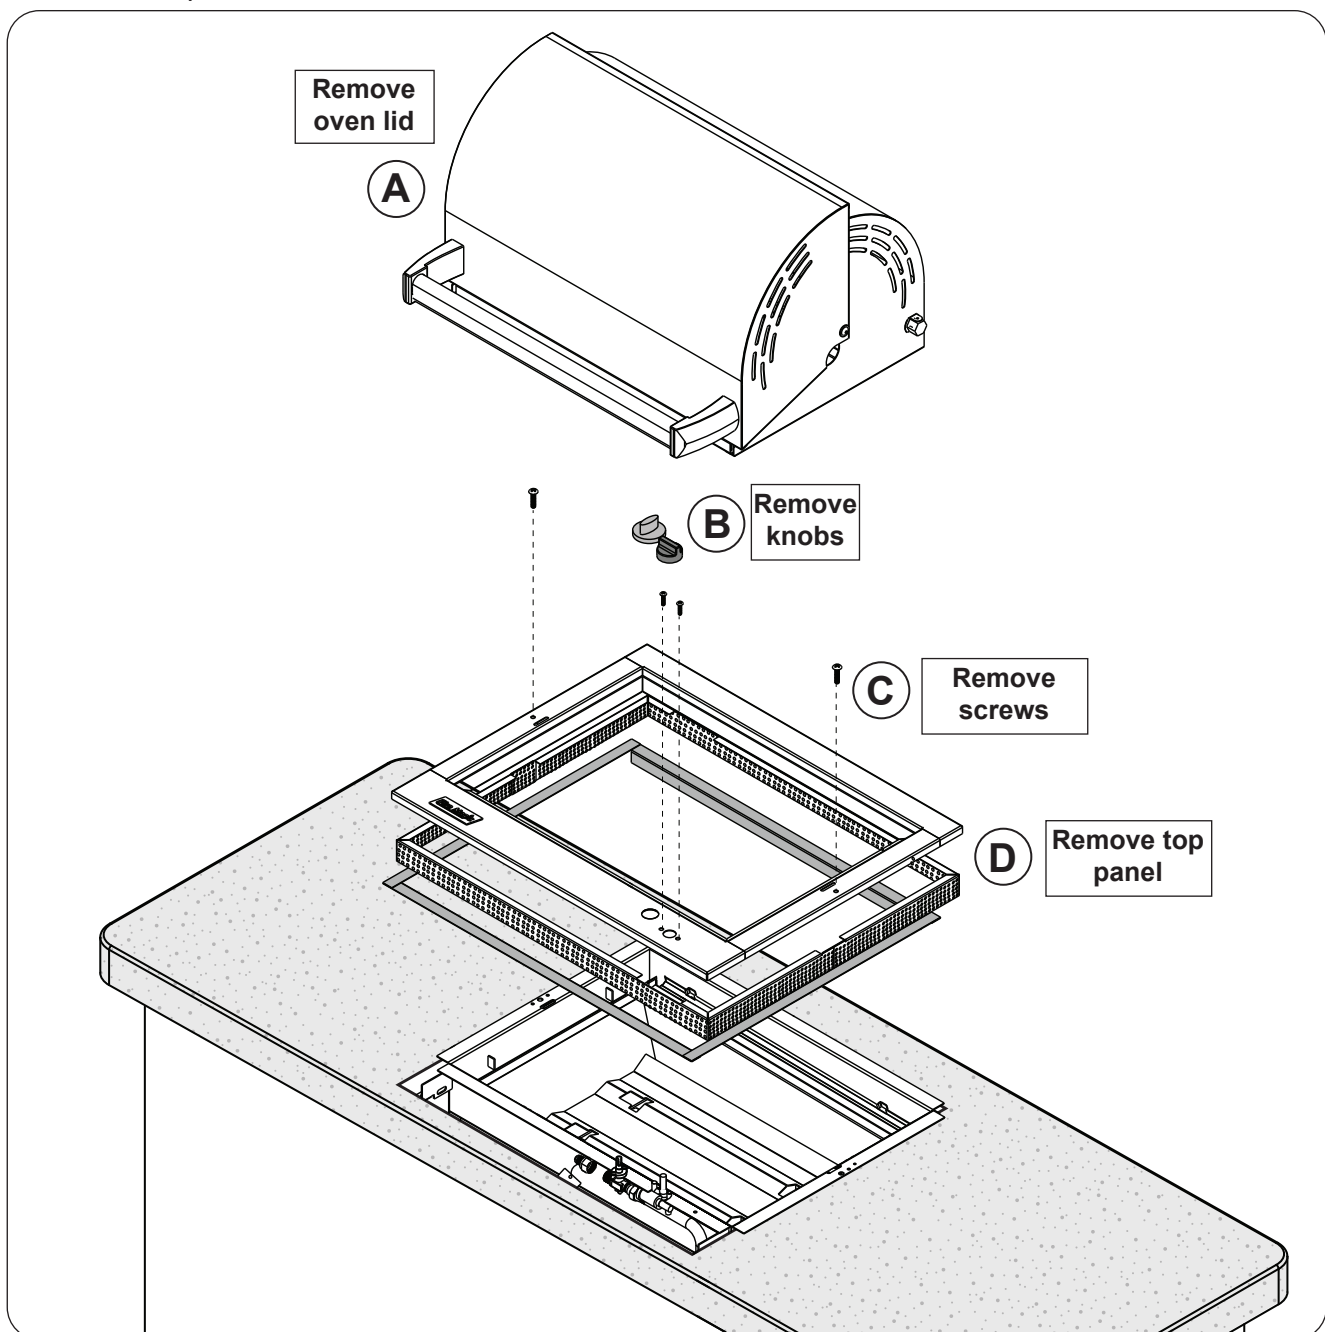

Fig. 35-1 Top panel removal
2. Carefully lift off the oven lid and set it aside (see Fig. 35-1, A).
3. Pull the control knob and igniter knob from their stems and set them aside (see Fig. 35-1, B).
4. Unscrew and remove 4 screws: two panel screws located at the top left and right sides of the top panel, and the two igniter screws situated at the front of the panel where the igniter knob was removed (see Fig. 35-1, C).
5. Carefully, but firmly, detach the top panel from the frame and set it aside (see Fig. 35-1, D). The screen and trim panels will become loose. Remove the panels and set aside, if needed.